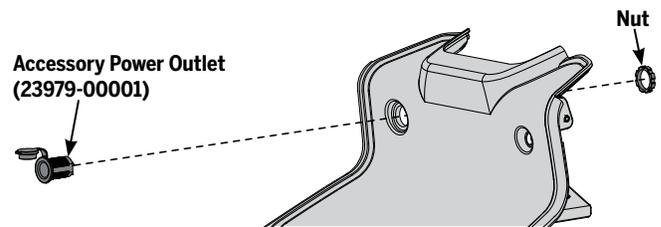

Figure 73: Accessory Power Outlet
3. Unscrew the plastic nut on the back of the Accessory Power Outlet. See **Figure 73**.